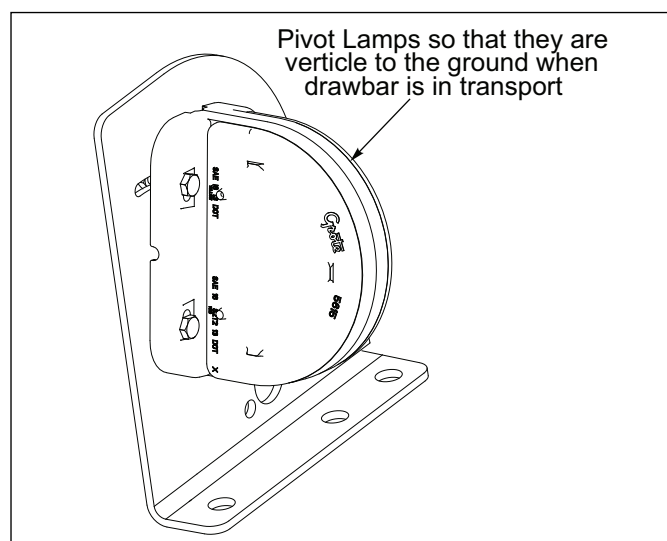

Figure 2-18: LED Adjustment
12. Adjust the LED Lamp angle so that the lamp is vertical (perpendicular) to the ground when the Pulverizer is in the transport position. Whether the Pulverizer is towed behind a tractor or a companion tool, the Light Mount Bracket provides lamp adjustment for higher or lower drawbar heights, ensuring that the lamp will always be vertical (perpendicular) to the ground and clearly viewable from the front and rear of the machine. **See Figure 2-18.**
3. Adjust the LED Lamp angle so that the lamp is vertical (perpendicular) to the ground when the Pulverizer is in the transport position. The bracket provides lamp adjustment for higher or lower Bridge Hitch heights, ensuring that the lamp will always be vertical (perpendicular) to the ground and clearly viewable from the front and rear of the machine. **See Figure 2-18.**